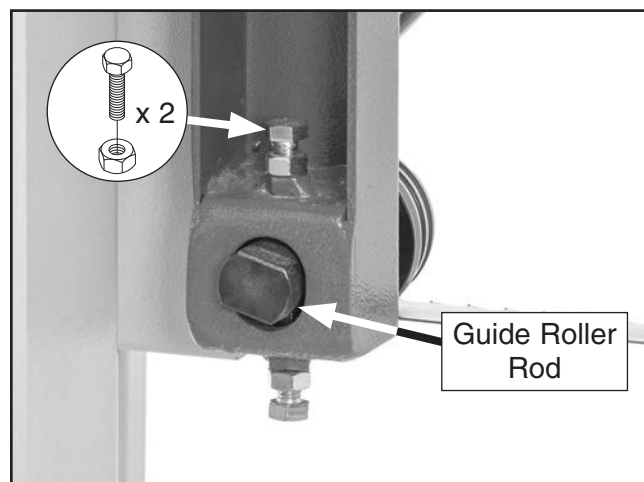

Figure 36. Guide roller adjustment components.
8. Loosen (2) hex bolts and jam nuts shown in **Figure 36** enough so guide roller rod can be adjusted.